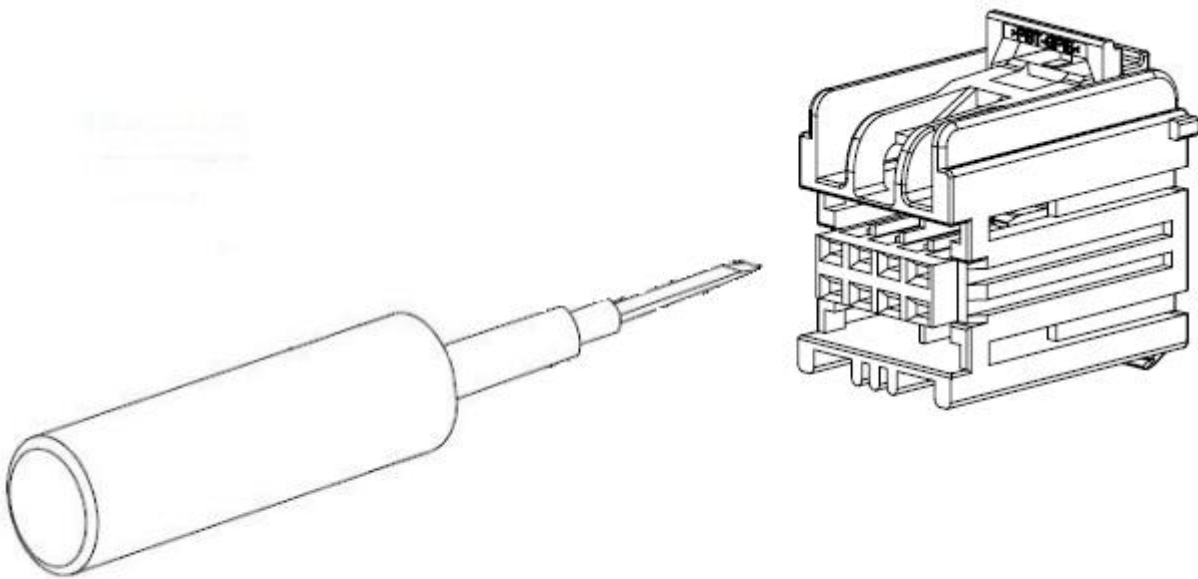

Fig 12.
- (2) Place the extraction tool under the beam that holds the contact in place as shown in Fig 12.